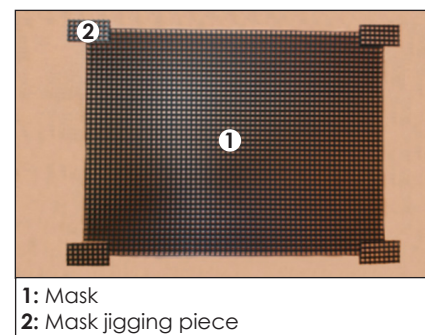

Figure 47: Tile Mask & Jigging Pieces
- Position a mask (Daktronics part number MP-4021294) over a tile. Refer to **Figure 47**. Ensure the mask does not span across a tile seam.